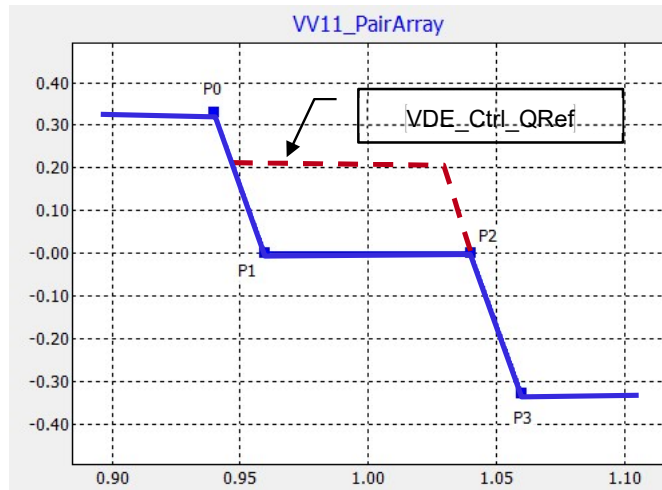

Figure 6 – Example of reactive power with voltage limiting function
This function combines a user-defined set point for the reactive power with volt-var support. As such the function is similar although not identical to VV11 described in section 11.3. An example is shown in Figure 6 (refer Appendix A: Direction definition of P and Q).
4. Define number of points appropriate for your curve (for the example shown in Figure 6 this would be 4 points).